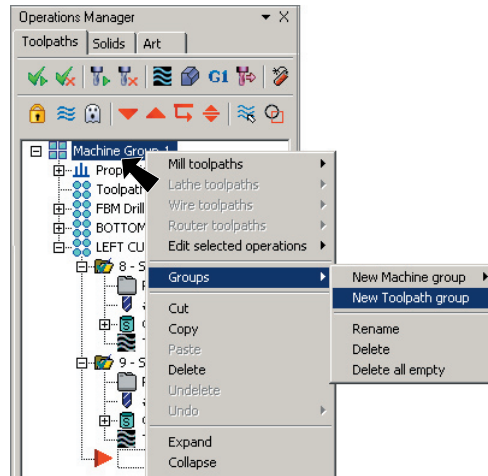

Fig. 98
Step 1. Insert another **Toolpath group**. To insert group, **right click Machine Group 1** at the very top of the Ops Manager and click **Groups > New Toolpath group**, **Fig. 98**.